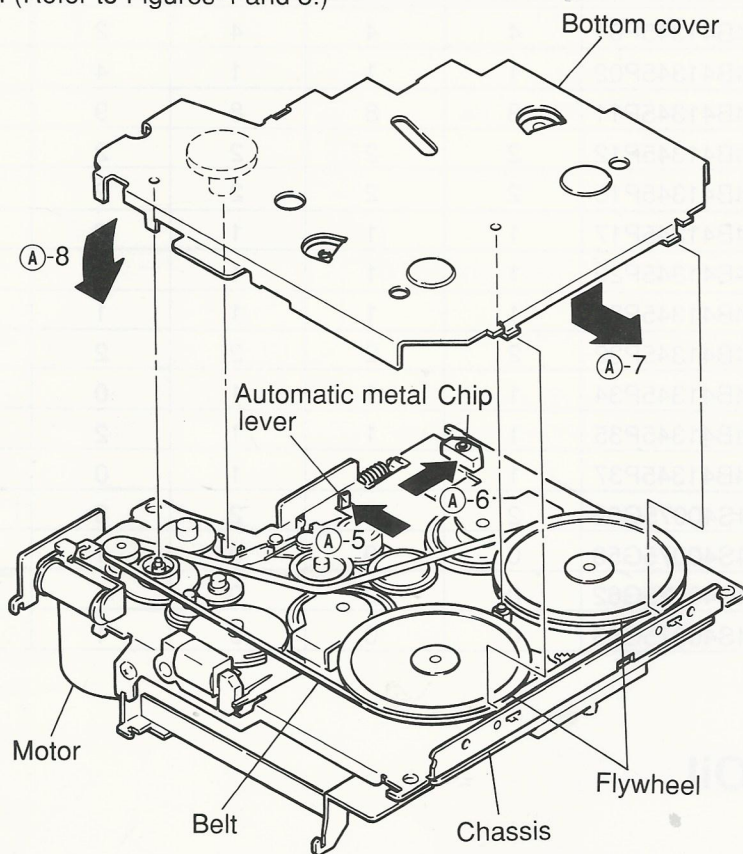

Figure 3
- (9) Turn the mechanism around as shown in Figure 3.
- (10) Pull the automatic metal lever in the direction ①-A-5 and the RF solenoid chip in the direction ①-A-6 as shown in Figure 3.
- (11) Insert the hooks of the bottom cover into the chassis in the direction ①-A-7, and then join the part ①-A-8 of the bottom cover to the chassis slowly, making sure that the 3 points indicated with the straight lines in the Figure 3 are fitted properly.
If there are troubles in mounting the bottom cover, do not apply force but remove the bottom cover once again and check the positions of the individual parts. (Refer to Figure 3.)